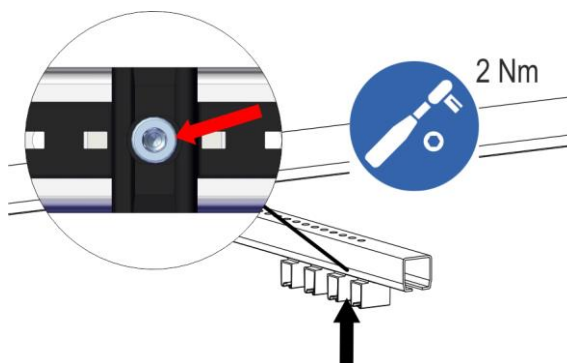

Fig. 66: Tighten the compact hanger clamps
- Tighten the compact hanger clamp with the prescribed torque (SW 6, torque wrench **2 Nm**) (see Fig. 66).